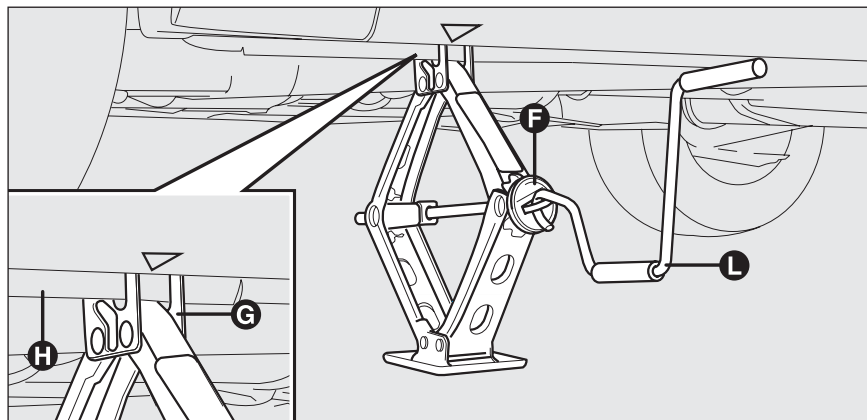

fig. 4
- operate the device **F-fig. 4** to extend the jack until the top of the jack **G-fig. 4** fits correctly into catch **H-fig. 4**;
- fit the handle **L-fig. 4** to operate the jack and lift the car until the wheel to be changed is several centimetres off the ground;
- turn the jack handle **L-fig. 4** to lower the car and remove the jack;